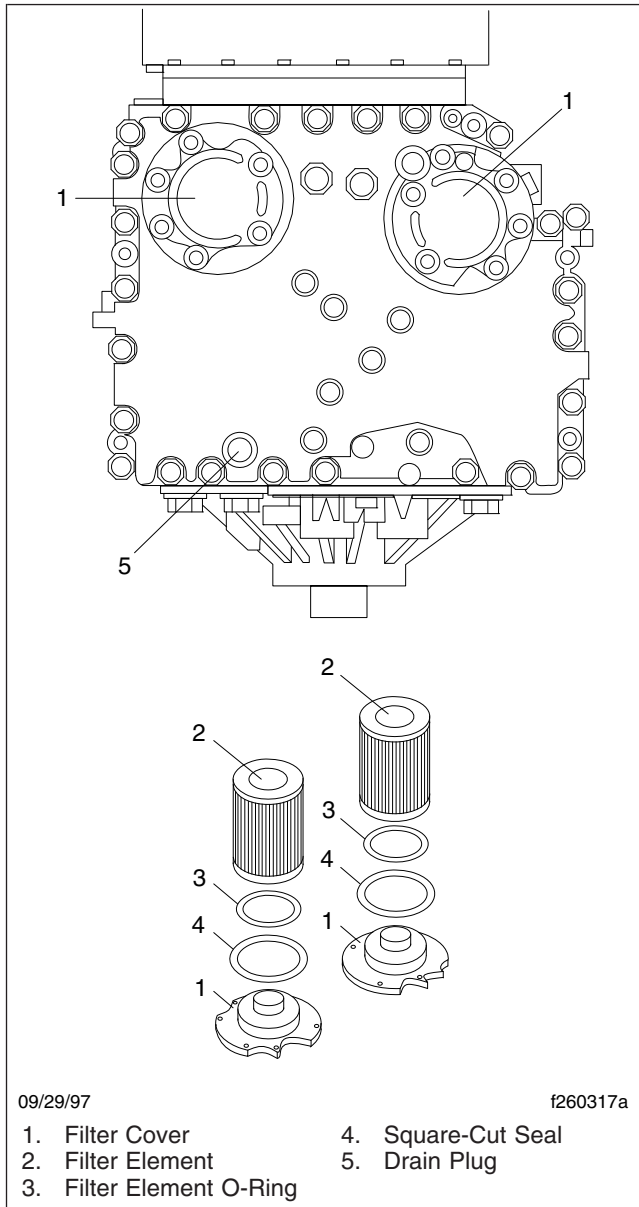

Fig. 2, Allison Transmission Filter Location and Components
5. Remove the filter covers, O-rings, and two square-cut seals from the transmission. See Fig. 2.